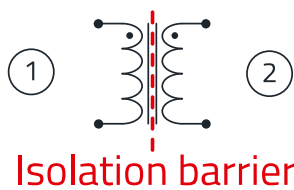

Figure 11: A schematic of a power transformer showing magnetic coupling between primary and secondary windings.
Transformers provide galvanic isolation by transferring electrical energy between circuits through magnetic induction while maintaining complete electrical separation between the primary and secondary windings, see Figure 11 detail 1 & 2. In this arrangement, the alternating current (AC) in the primary winding generates a time-varying magnetic field in the transformer's core, which induces a corresponding voltage in the secondary winding. This behaviour allows efficient energy transfer while maintaining electrical separation and preventing direct current (DC) flow between input and output.